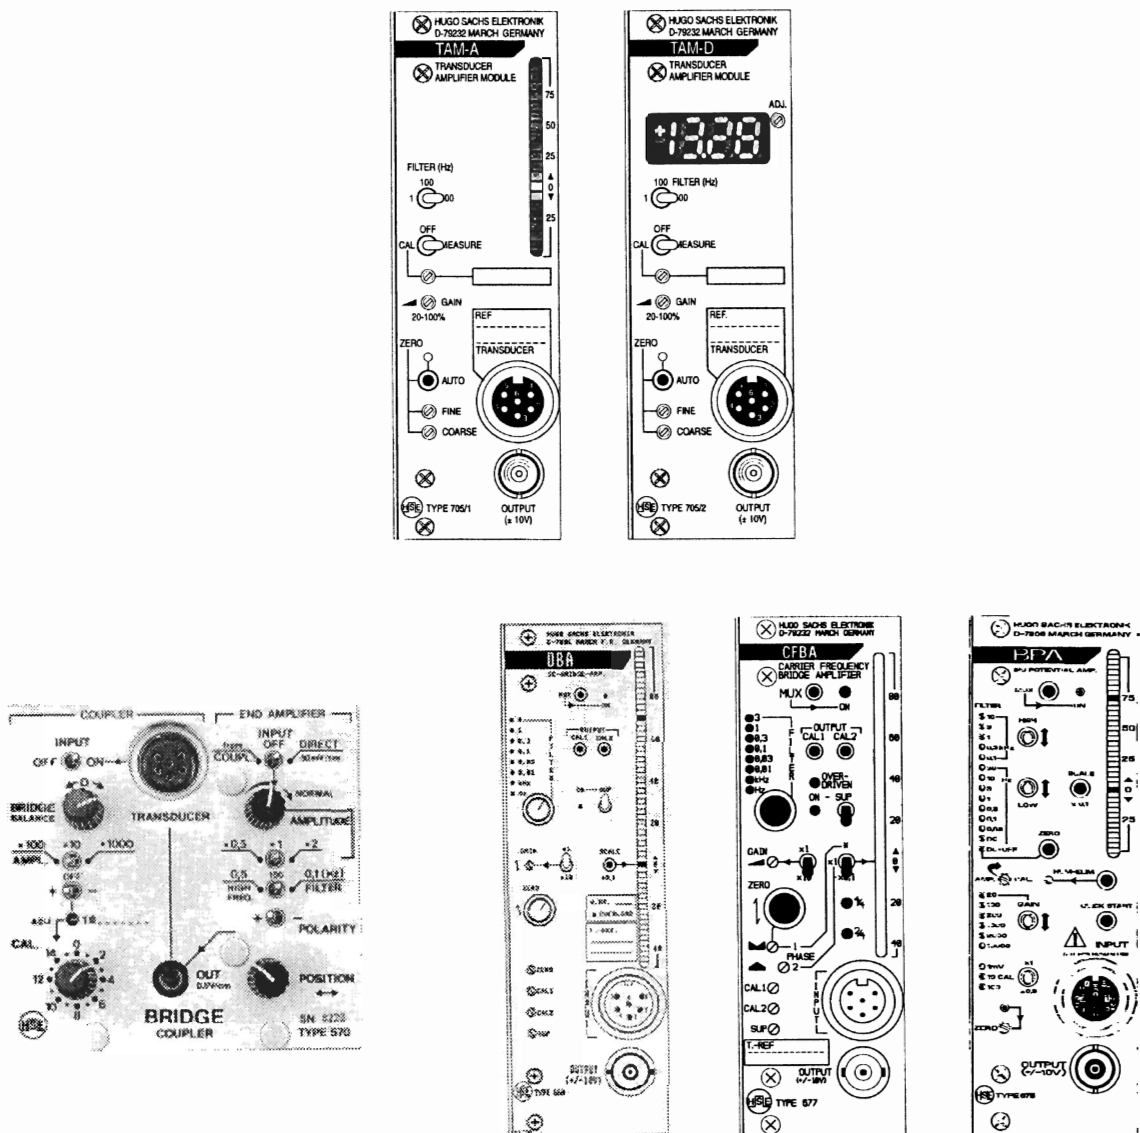

Fig. 10: The various bridge amplifiers of the HSE programm to which the B40 lever transducer can be connected
13. Bridge amplifiers suitable for the B40 (see Fig. 10)